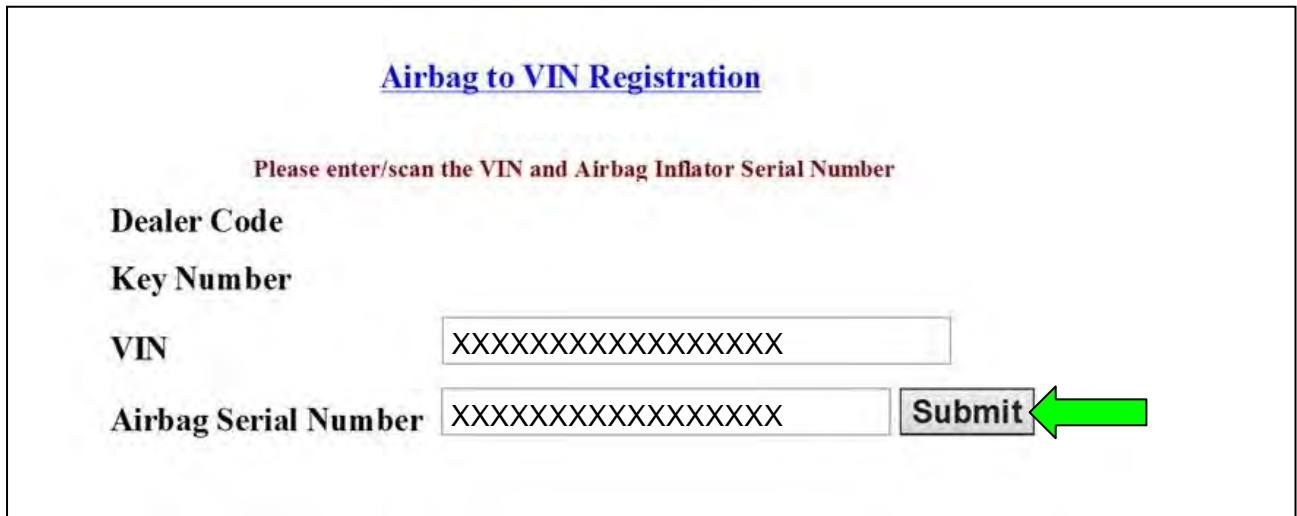

Figure 8
10. Using the Quick Scan Tool (J-52352), scan the bar code (VIN) located on the driver (LH) side B-pillar label.
- Hold tool J-52352 about six (6) inches away from the VIN label.
- The VIN will populate automatically. See Figure 8 on page 7.
- The airbag module serial number will populate automatically below the VIN. See Figure 8 on page 7.